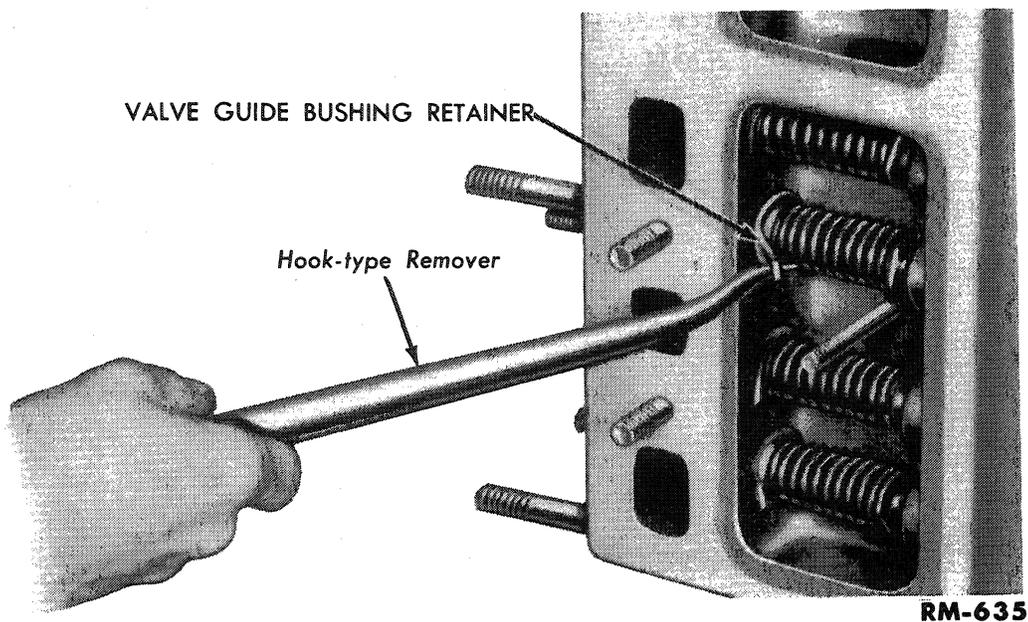

Fig. 4—Removing Valve Guide Bushing Retainer
f. **Remove Valve Assemblies and Camshaft.** Remove the cylinder front cover (fig. 3) from the cylinder block. Remove the nut and flat washer from each valve chamber cover. Remove the valve guide bushing retainer with a hook-type remover (fig. 4) from all valves that are in the closed position. Turn the crankshaft until those valves which were in an open position are closed. Repeat the above procedure, and remove the remaining valve guide bushing retainers. Remove the valve assemblies from the cylinder block with